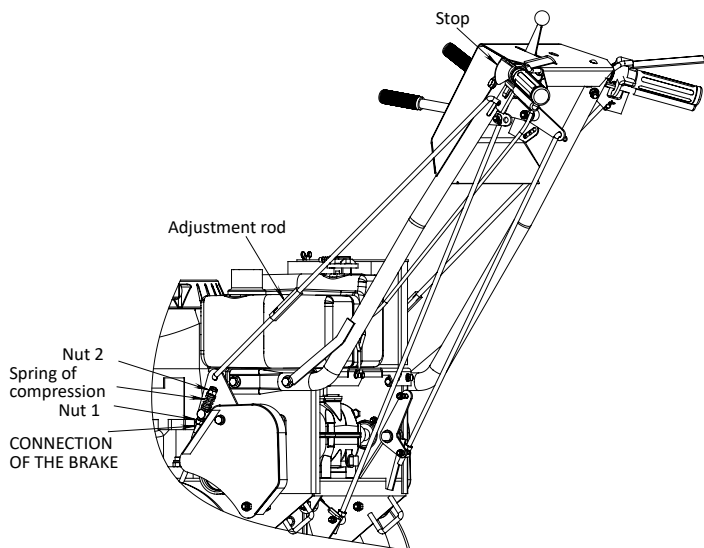

FIG 11.
- Loosen the nut on the drive belt tension pulley. Remove the tension pulley and the belt that needs to be replaced. Install the new belt, then install the drive pulley in reverse order. Adjust the belt according to the belt adjustment method, then tighten the nut. (See FIG 11)
- Brake force adjustment: Lift the shift rod to the left/right and lock it with the buckle. Turn nut 1 and nut 2 on the brake lever to compress the spring and obtain enough braking force. Then turn nut 1 again, making sure that a 1 mm gap is maintained between nut 1 and the rod end connector. (See FIG 11)